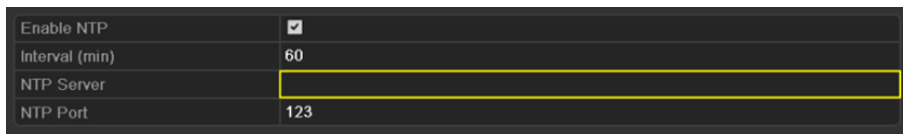

Figure 13-6 NTP Settings Interface
Step 2 Select the **NTP** tab to enter the NTP Settings interface, as shown in Figure 13-6.